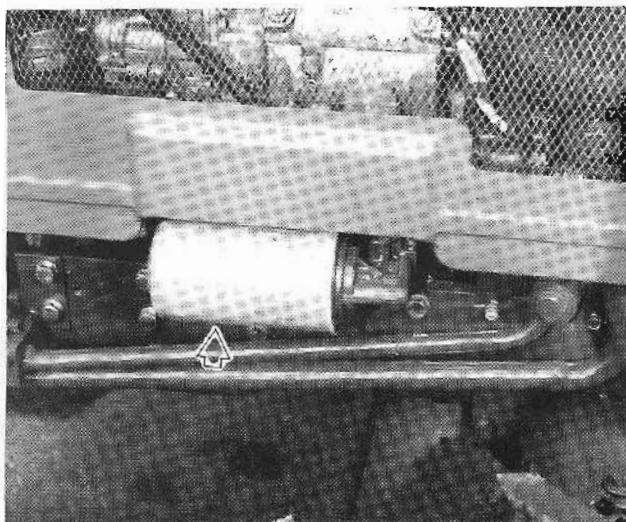

Figure 37 — Engine Oil Filter
2. Unscrew the oil filter. Figure 37, catching the used oil in a suitable container placed below the filter. Discard the filter.